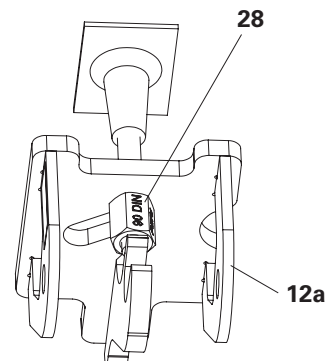

Fig. A5.11c
2. Push Suspension Head Flex VGK (**12a**) into position and tighten B15 Anchor VGK (**28**). (Fig. A5.11c)